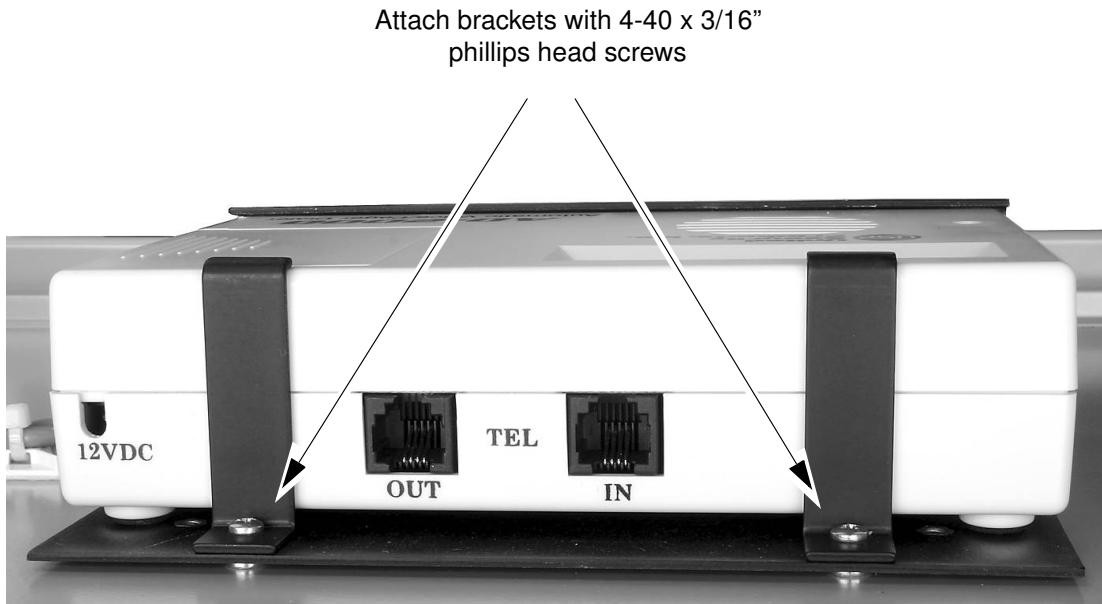

Figure 4: Hold down brackets for the dialer unit.
- 6) Remove the lower pre-etched tab on the back of the cover plate so that the DC and 4 conductor cable exit the rear of the dialer without being pinched. Attach the dialer unit to the mounting plate using two hold down brackets as shown in **Figure 4**.
- 10) Connect a telephone line to the "TEL IN" connector on the top of the dialer unit. See figure 4.